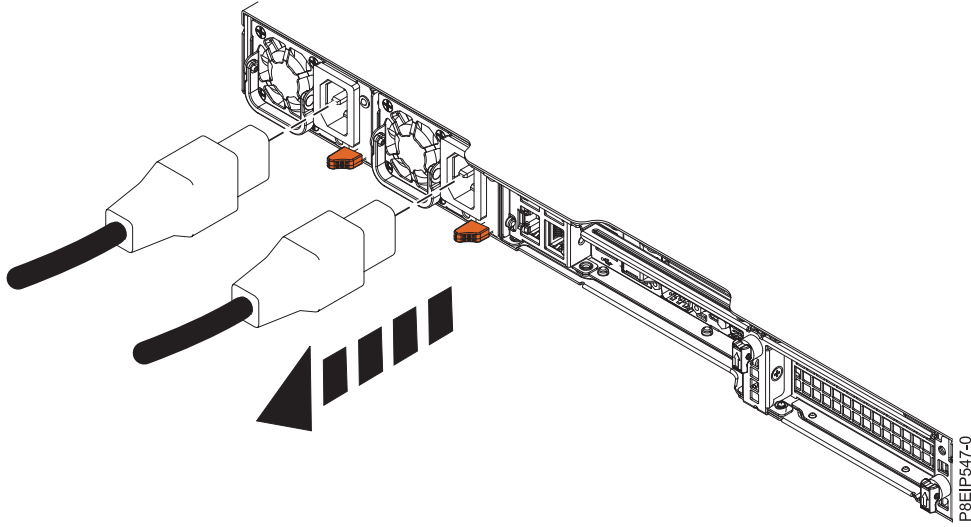

Figure 100. Removing the power cords from the system
2. Label and disconnect the power cords from the system unit as shown in Figure 100 on page 95.